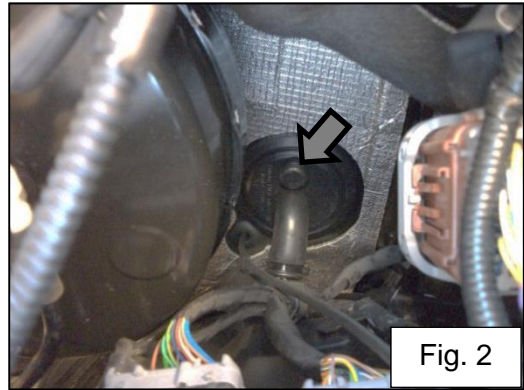

Fig. 2
4. Make a small incision in the grommet on the driver side of the firewall and pass the power harnesses into the cabin. Fig. 2